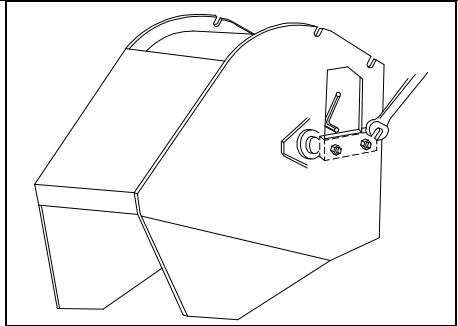

Fig. 17
- Insert the keys in the two apertures (fig. 17) and remove the counter-blade.